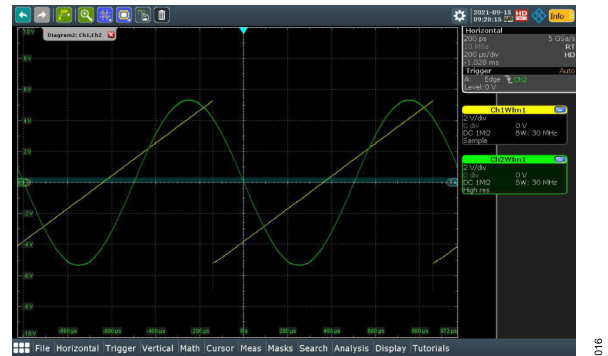

Figure 17. Simultaneous Waveform Output
9. The DS1 LED on the EVAL-AD3552RFMCZ turns yellow and the playback starts. The waveforms must look as the ones shown in Figure 17 in the oscilloscope.